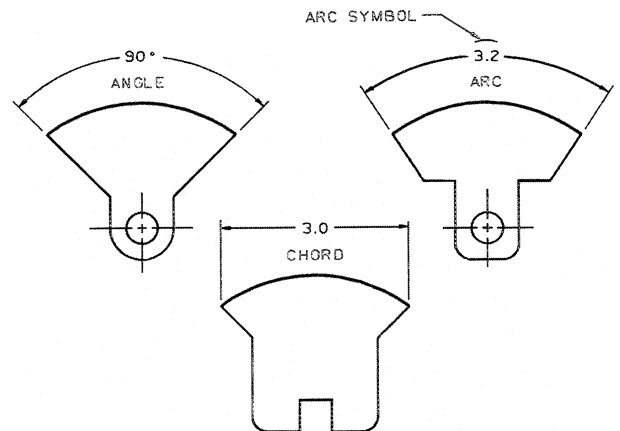

FIGURE 15.41 Dimensioning Angles, Arcs, and Chords
An angle measurement is the most common way to dimension arcs and chords (Fig. 15.41). The arc dimension with the arc symbol and the chord dimension are used in
- ✎ The symbol to indicate a linear dimension is an arc length measured on a curved outline (Fig. 15.53). The symbol is placed above the dimension (Fig. 15.41).